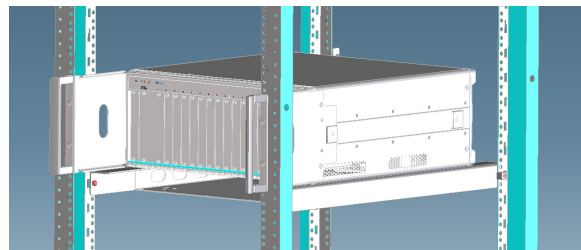

Figure 7. M9018B and M9019A chassis rack-mounted using the Y1216A, Y1217A, and Y1218A.
- Y1216B Recess mount rack kit (Figure 7): Complete recess-mount kit including rack flanges, handles, and attachment hardware. The kit recesses the chassis by 4 inches and suspends the chassis in a Keysight rack using only 4U of rack space. Rack rails may be needed in a non-Keysight rack.
- Y1217B Rack mount rail kit (Figure 7): This optional kit provides additional stability to the chassis when rack-mounted. When using rails, the chassis will require 5U of rack space. Rails may not fit in a non-Keysight rack.
- Y1218A Cable tray kit (Figure 7): Adds a 1U high cable tray to the chassis and includes cable tray, feet for using the chassis/tray on a table, and attachment hardware.